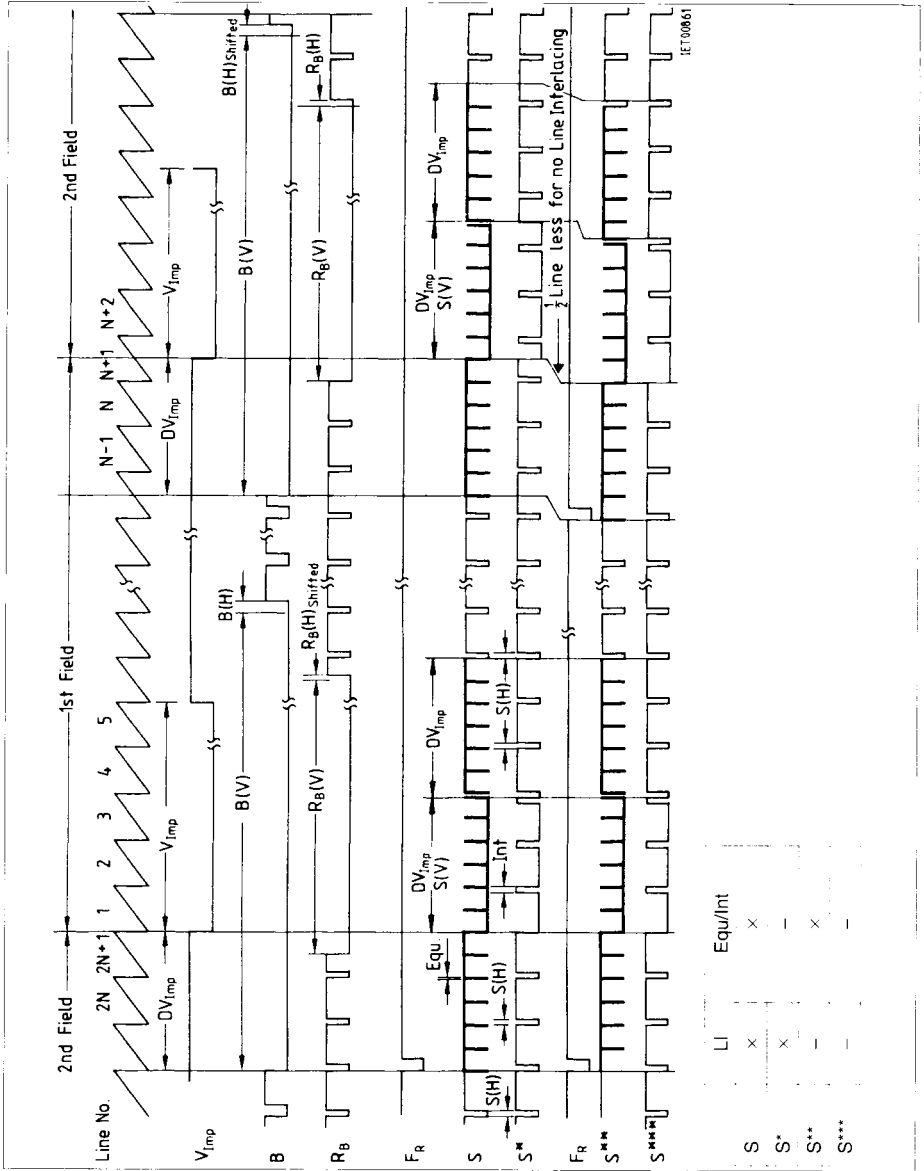

Figure 4 Composite Frame Signals for Even Number of Equalizing Pulses
2) No Equ. & Int. in middle of line. Int. corresponds to S(H) shifted. See figures 4 and 5.